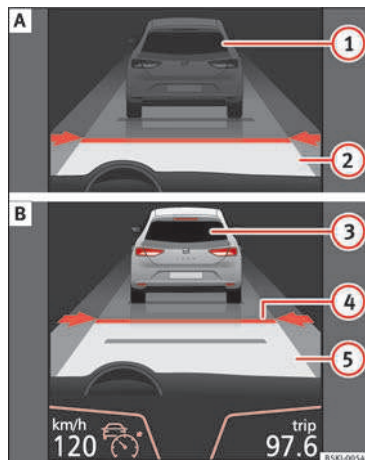

Fig. 163 On the instrument panel display: (A) ACC inactive (Standby). (B) ACC active.
Indications on the display » **Fig. 163:**
When the Adaptive Cruise Control (ACC) is connected, the green control lamp (🟢) will light up on the instrument panel, and the programmed speed and ACC status will be displayed ►► **Fig. 163.**
The programmed speed can be modified when the vehicle is stopped or while driving, as preferred. Any modification to the programmed speed is shown on the bottom left part of the instrument panel display » Fig. 163.
- To activate the ACC, press button **SET** or move the third lever of the ACC to position ② » Fig. 165. At this point, the image of the ACC on the instrument panel display will change from *Inactive* (Standby) mode to *Active* » Fig. 163 mode.